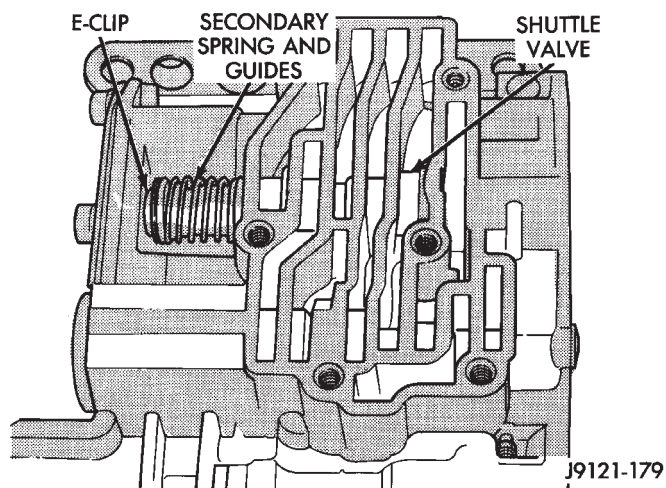

Fig. 69 Shuttle Valve E-Clip And Secondary Spring Location
(3) Remove E-clip that secures shuttle valve secondary spring on valve stem (Fig. 69).